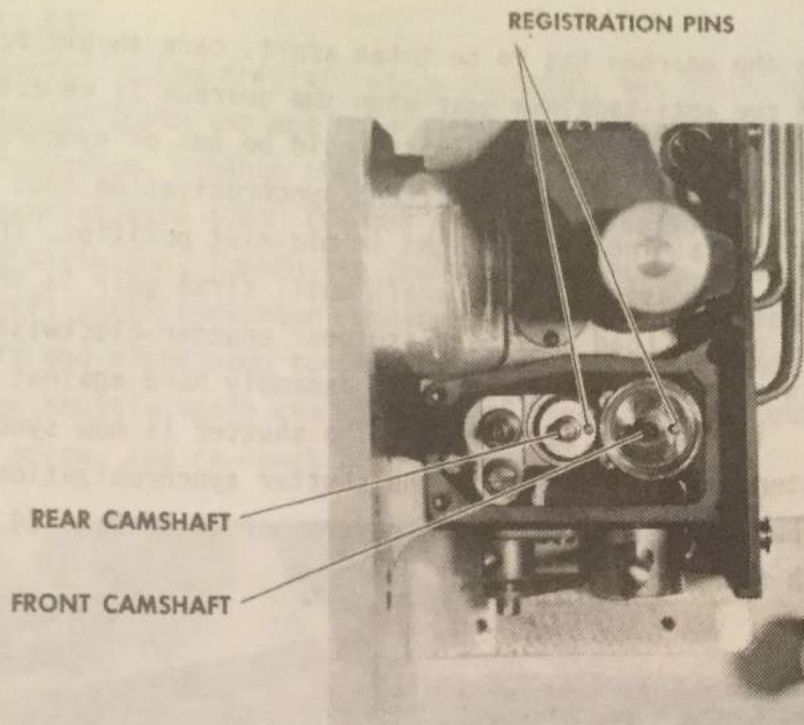

FIGURE 6
Remove the four shutter cover retaining screws and cover. In sequence, remove the elastic stopnut, shuttle pivot bushing washer, shuttle pivot outer spacer, nut cam lock, rear cam retaining washer, special nut, front cam counterweight, front cam lube disc, disengage shuttle spring from shuttle assembly, and remove shuttle assembly, shuttle pivot bushing, shuttle pivot inner spacer, rear horizontal motion cam, and front horizontal motion cam. Loosen the three shutter retaining screws to allow shutter to rotate manually. Rotate shutter knob until the registration pins are to the right of the shafts (Fig. 6) and horizontal to each other. Install the shutter intermittent synchronization tool over the registration pins and lock in position by installing knurled nut (A) on front camshaft. Loosen knurled nut (B) and raise tool bar up against shutter blades in a horizontal position, by installing knurled nut (B). Re-tighten the three shutter retaining screws (Fig. 7). The shutter is now synchronized with the intermittent assembly.